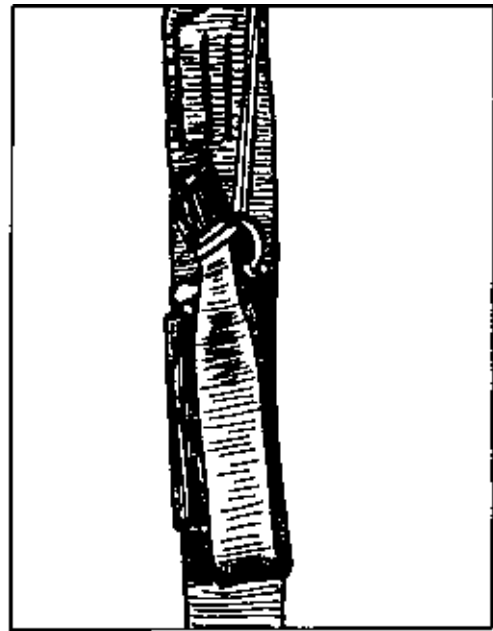

Figure 1
- d. Stow the excess steering line vertically in the velcro keeper, wrapping the loop velcro around the line and locking it over approximately one-third of the hook velcro. *Figure 1*